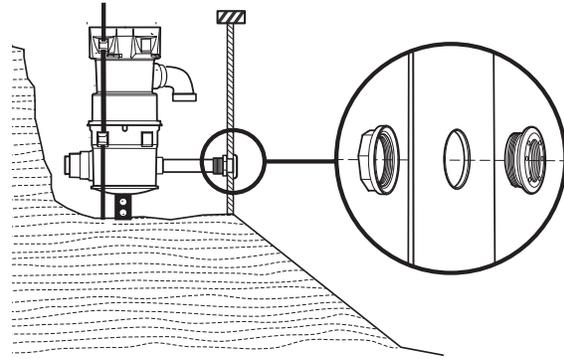

Figure 6. Deck Canister Installation (Vinyl Liner Pools)
1. Drill a 3" diameter hole in the "pre-vinyl" pool wall for the wall fitting, 22" below the liner track. From inside the pool, insert the vinyl wall fitting into the hole. From outside the pool, thread the locking nut into the wall fitting (see Figure 6).